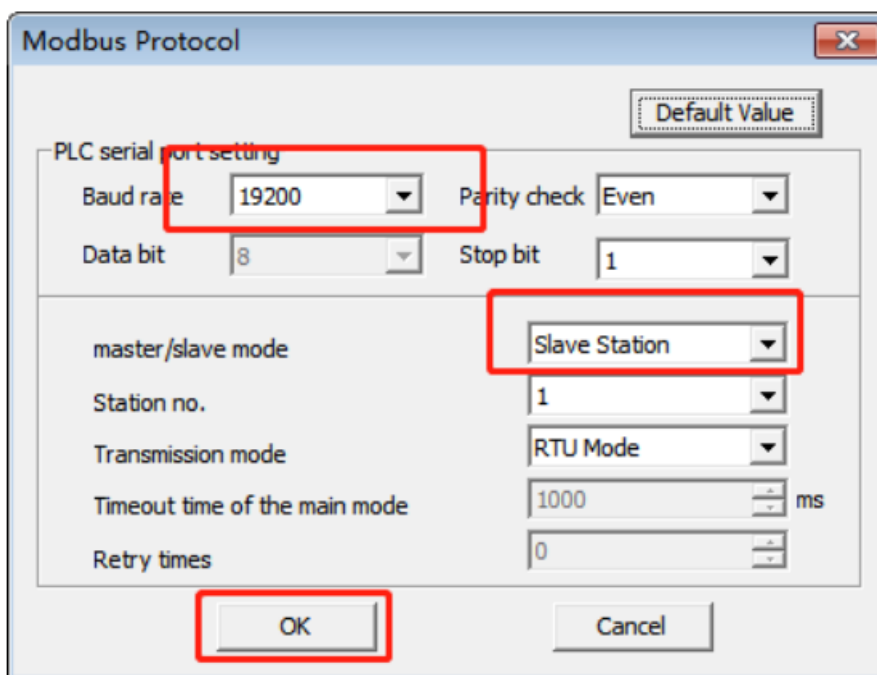

Figure 4-2 Parameter configuration
- Click "Modbus Settings" to enter the communication parameters configuration, click "Confirm" after configuration to complete the communication parameters configuration As shown in Figure 4-2
- The VC-RS485 expansion communication module can be used as either a slave station or a master station, and you can choose according to your needs. When the module is a slave station, you only need to configure the communication parameters as shown in Figure 4-2; when the module is a master station, please refer to the programming guide. Refer to Chapter 10: